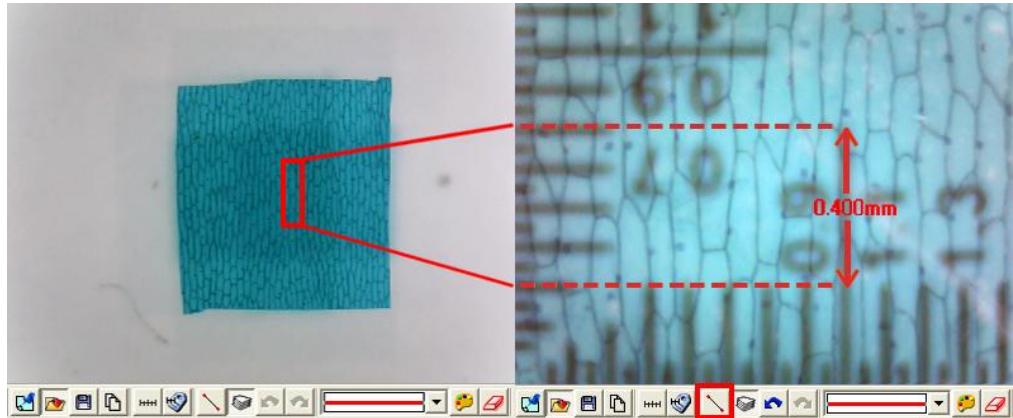

Fig . 5-34 The Cross
- c. Cross: The main purpose for the Cross is to calibrate the program and also as a measurement. The Cross (See above chart c) has 3 kinds of units as 0.05mm, 0.1mm and 1mm scale. It will measure 0.05mm, 0.1mm at high magnification and 0.1mm, 1mm at low magnification. The Cross can measure the Length and Width accurately, ie.: Fig 5-34, Measure the length of the onion cell as the red rectangle which is approximate 0.400mm.